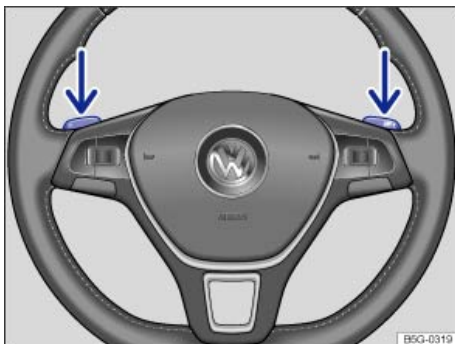

Fig. 132 Steering wheel with Tiptronic shift paddles (if equipped).
- The paddles ⇒ fig. 132 (arrows) work when the selector lever is in the Tiptronic position or when the selector lever is in Drive or Sport Drive (**D/S**). You do not have to move the selector lever over to the right into the Tiptronic position.